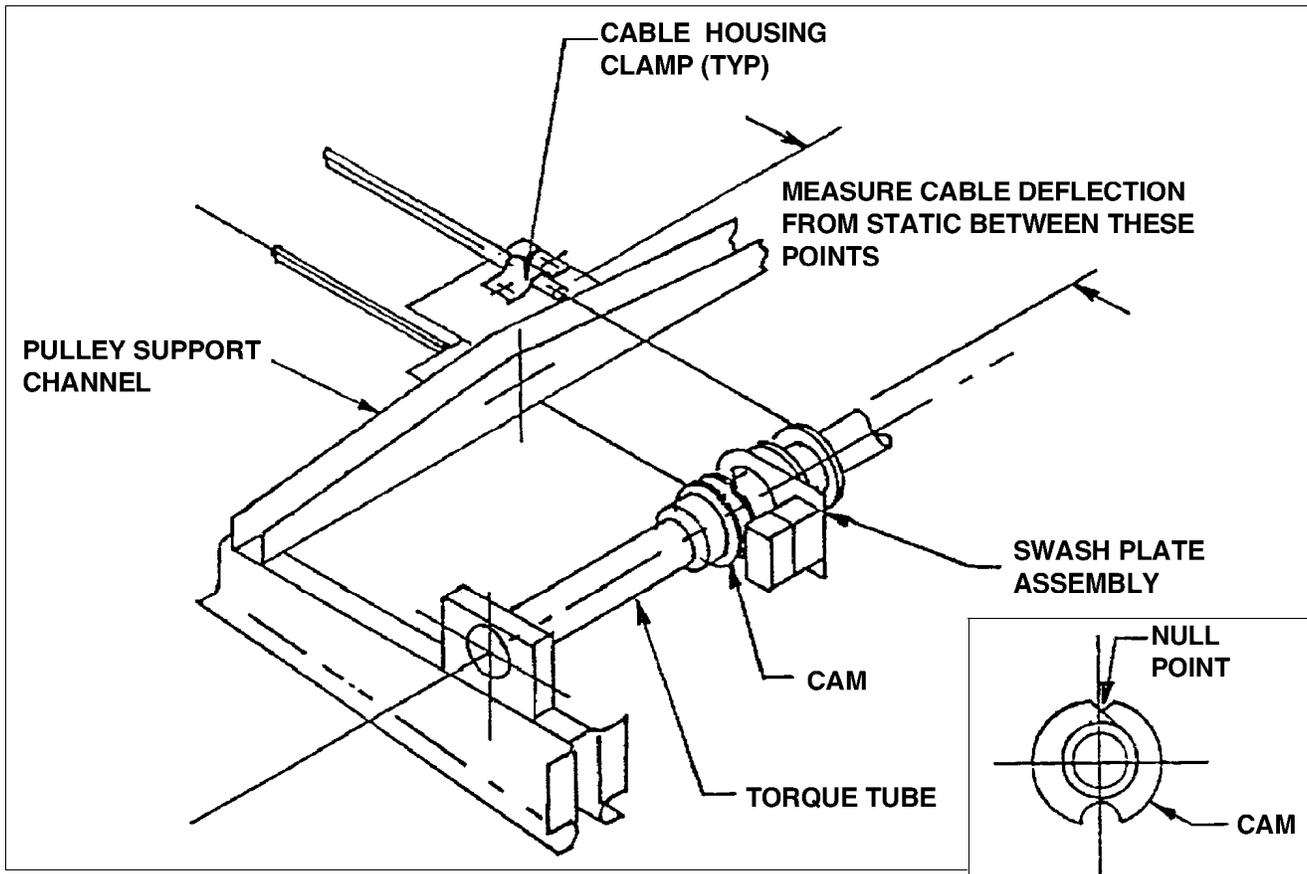
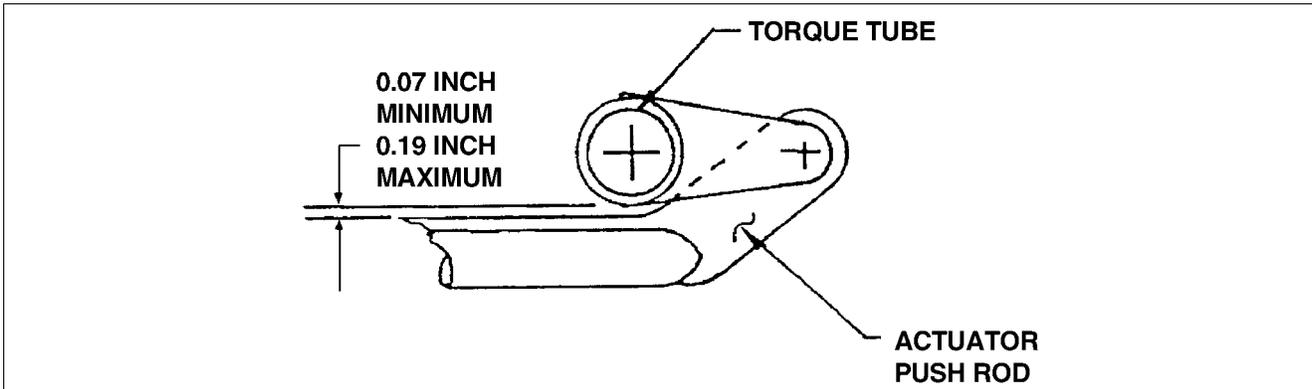

Figure 27-28. Electrically Operated Flap Torque Tube Assembly
Figure 27-29. Electrically Operated Flap Cam Adjustment
- (2) Position the swash plate assembly on torque tube and secure in place. (Refer to Figure 27-28.)
- (3) Loosen cable housing clamps at pulley support channel. Adjust cable tension so that a  $5 \pm 0.5$  pound pull midway between cable housing clamps and swash plate assembly will deflect the cable 0.38 inch from relaxed position. Tighten cable housing clamp. (Refer to Figure 27-28.)
- (1) Pull the electric flap circuit breaker.
- (2) Disconnect actuator motor power leads and connect a reversible 24 volt DC ( except 12 volt in HP S/N's 3246001 thru 3246017 only ) power source.
- (3) Run actuator out so that there is 0.10 inch clearance between torque tube and the actuator push rod. (Refer to Figure 27-29)
- (4) Connect aircraft wires to actuato motor and secure.
- (5) Pull electric flap circuit breaker. Apply power to aircraft buss.
Be sure that switch rollers are in cam "null point," as shown in Figure 27-28 inset, and not 180 degrees off.
- (6) Loosen set screw in cam and rotate until flap in-transit light is out (Refer to Figure 27-28). Tighten the cam set screws.
- (7) Push in electric flap circuit breaker and verify that flap motor does not run.
- (8) Move selector lever to full DOWN position. Verify that actuator retracts and stops about 0.4 inch short of bottoming out.
- (9) Move flap selector lever to the full UP position. Verify that clearance between actuator push rod and torque tube is .07 inch minimum and 0.19 inch maximum. (Refer to Figure 27-29).